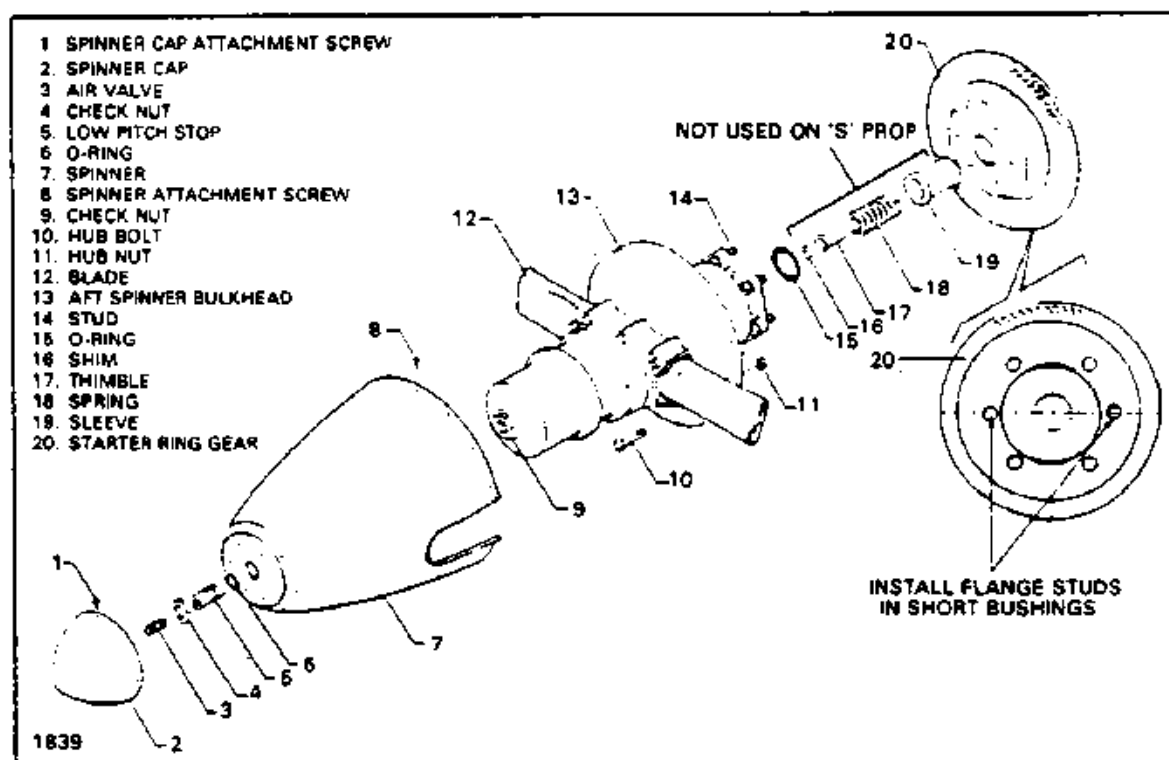

Figure 8-2. Standard Propeller Installation
#### 8-9. REMOVAL OF PROPELLER. (Refer to Figure 8-2.) This includes all propellers, standard and with spring backup kit installed, identified by a letter "S" in the dash number.
#### 8-11. INSTALLATION OF PROPELLER. (Refer to Figure 8-2.)
2. Install spinner bulkhead (13) on propeller hub and secure with locknuts. Torque bolts to specifications given in Table VIII-1.
4. Position the prop flange and starter ring gear so the two short bushings are horizontal. (Refer to Figure 8-2.)
5. Lubricate and install "O" ring (15) in prop hub.
6. Install sleeve (19), spring (18), thimble (17) and shim (16) in engine crankshaft on